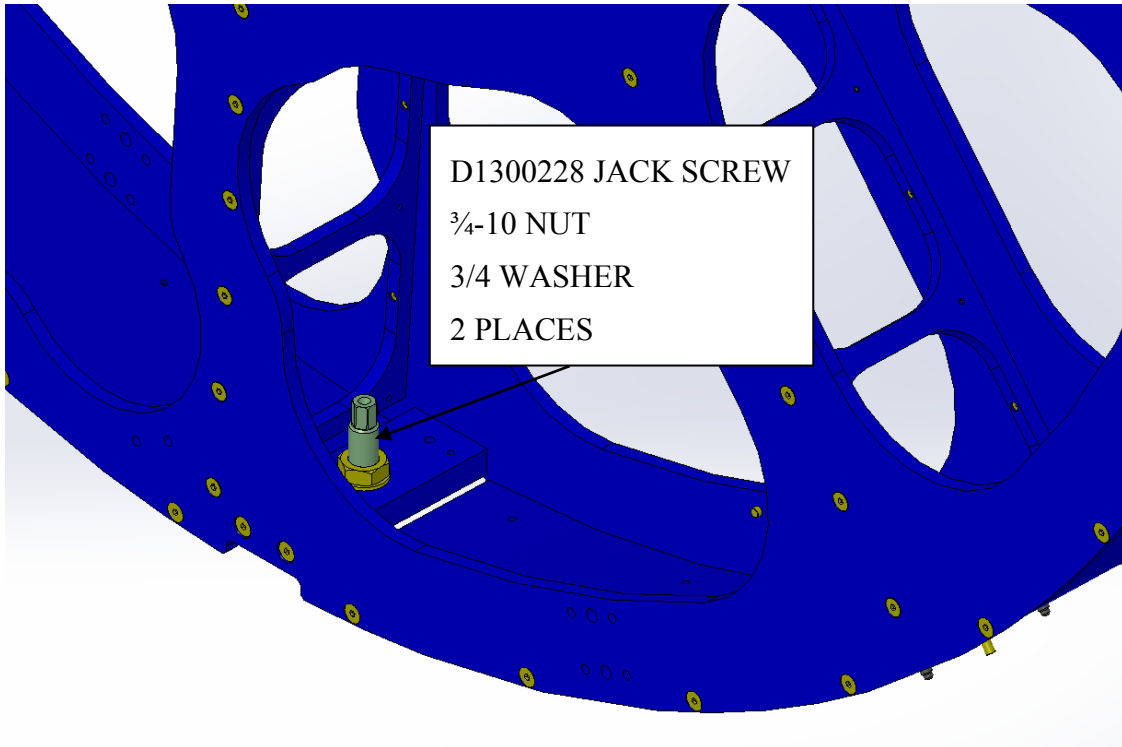

Figure 2 Jack Screw with jam nut and washer (temporary tooling for installation of completed Periscope Assembly D1200174).
48. Install two D1300228 Jack Screws with $\frac{3}{4}$ -10 nuts and washers. Jack Screw tips should be flush with the outside surface of the Connector Pieces. Nuts should be lightly tightened to prevent loosening during shipping. See **Figure 2**.